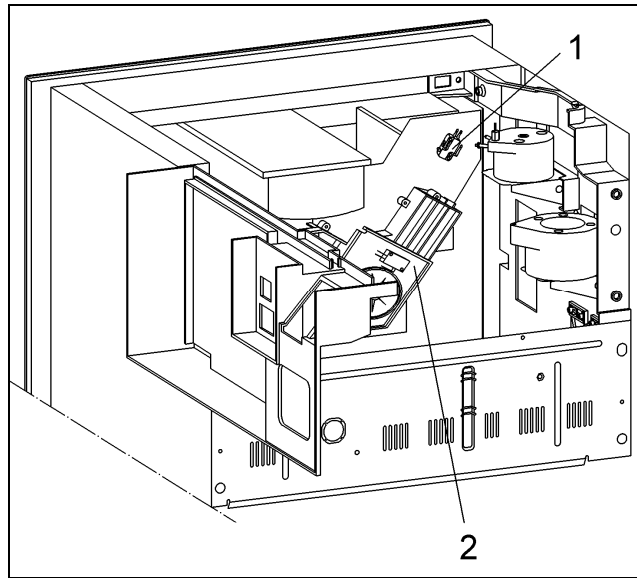

Figure 5-11: Brew Unit Drive Plug Location
6. Disconnect the plug from the brew unit drive (Figure 5-11, Item 2).